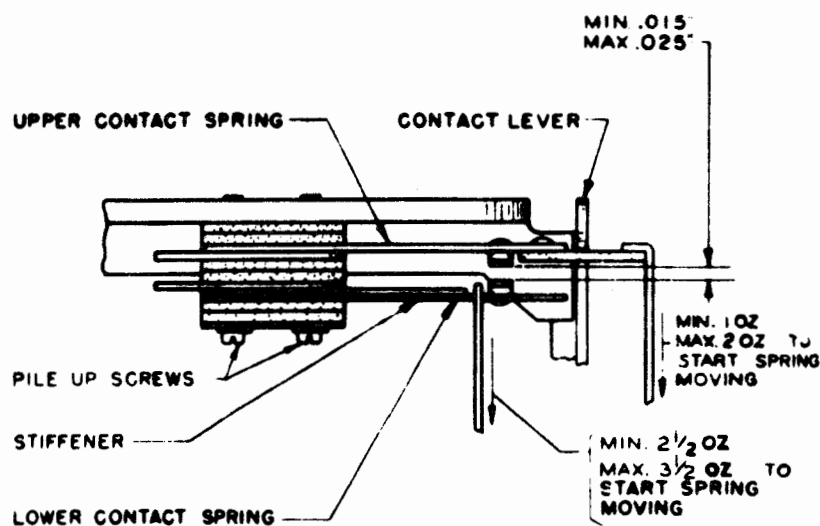

Figure 6
4.06 Upper Contact-spring Insulator should press against the contact-lever with a force of minimum 1 ounce, maximum 2 ounces, when the bell latch-bar is in its unoperated position and the lower contact-spring is held clear of the upper contact. See Figure 6.
4.07 Lower Contact-spring should press against its stiffener with a force of minimum 2-1/2 ounces, maximum 3-1/2 ounces. See Figure 6.
4.08 Contact Gap between the springs should be minimum 0.015 inch, maximum 0.025 inch, with the printing-bail in the extreme rear position. See Figure 6.